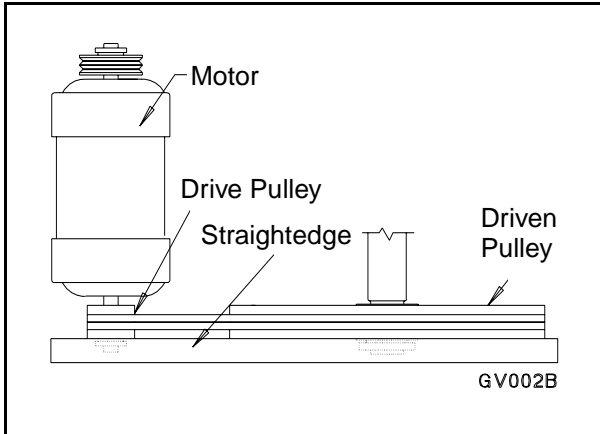

Figure 29
- c. Verify that V-belts are properly aligned by checking pulley alignment. Place a straightedge across both pulley faces. The straightedge should make contact with the pulleys in four places. See Figure 29.